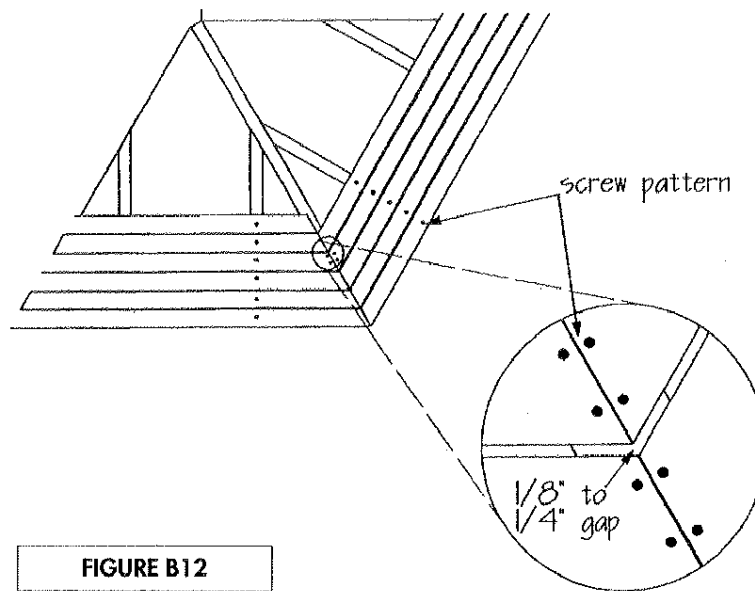

FIGURE B12
4. Place the next row of decking and attach in the same manner, continuing to build the deck in a circular pattern. There should be about $1/8"$ space between each row of decking (but this will vary somewhat) as illustrated in **Figure B12**.